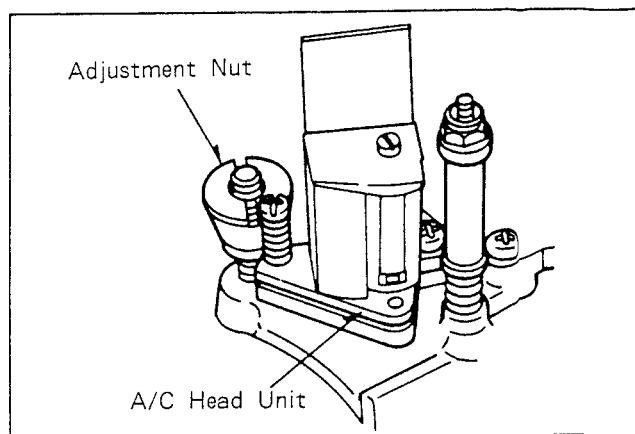

Fig. M16
4. Adjust the adjust screw so that the RF envelope output level becomes maximum at the detent position (Fig. M16, M17).